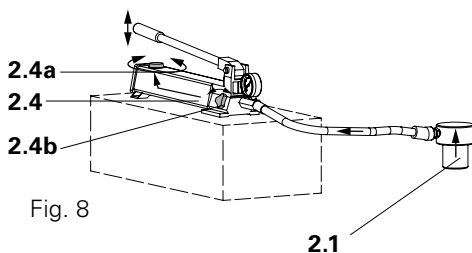

Fig. 8
7. Close the vent and filler cap by turning in a clockwise direction. (Fig. 8)